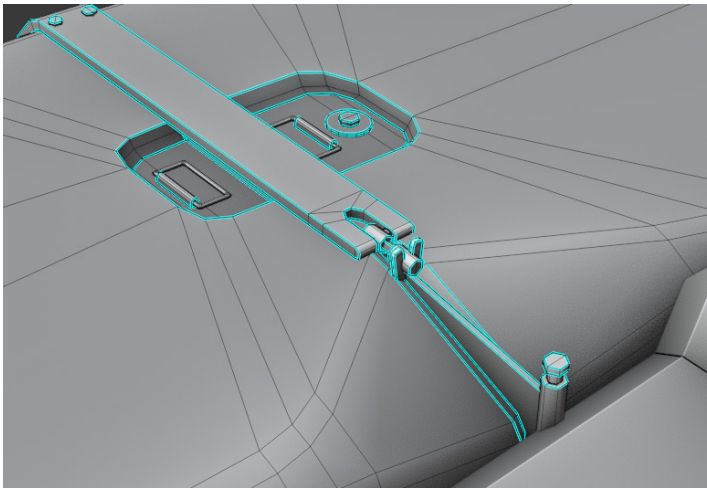

Figure 8.20 – A box strap
10. Connect the boxes with a strap, as shown in *Figure 8.20*. This is a close-up image containing some more detailed ideas.